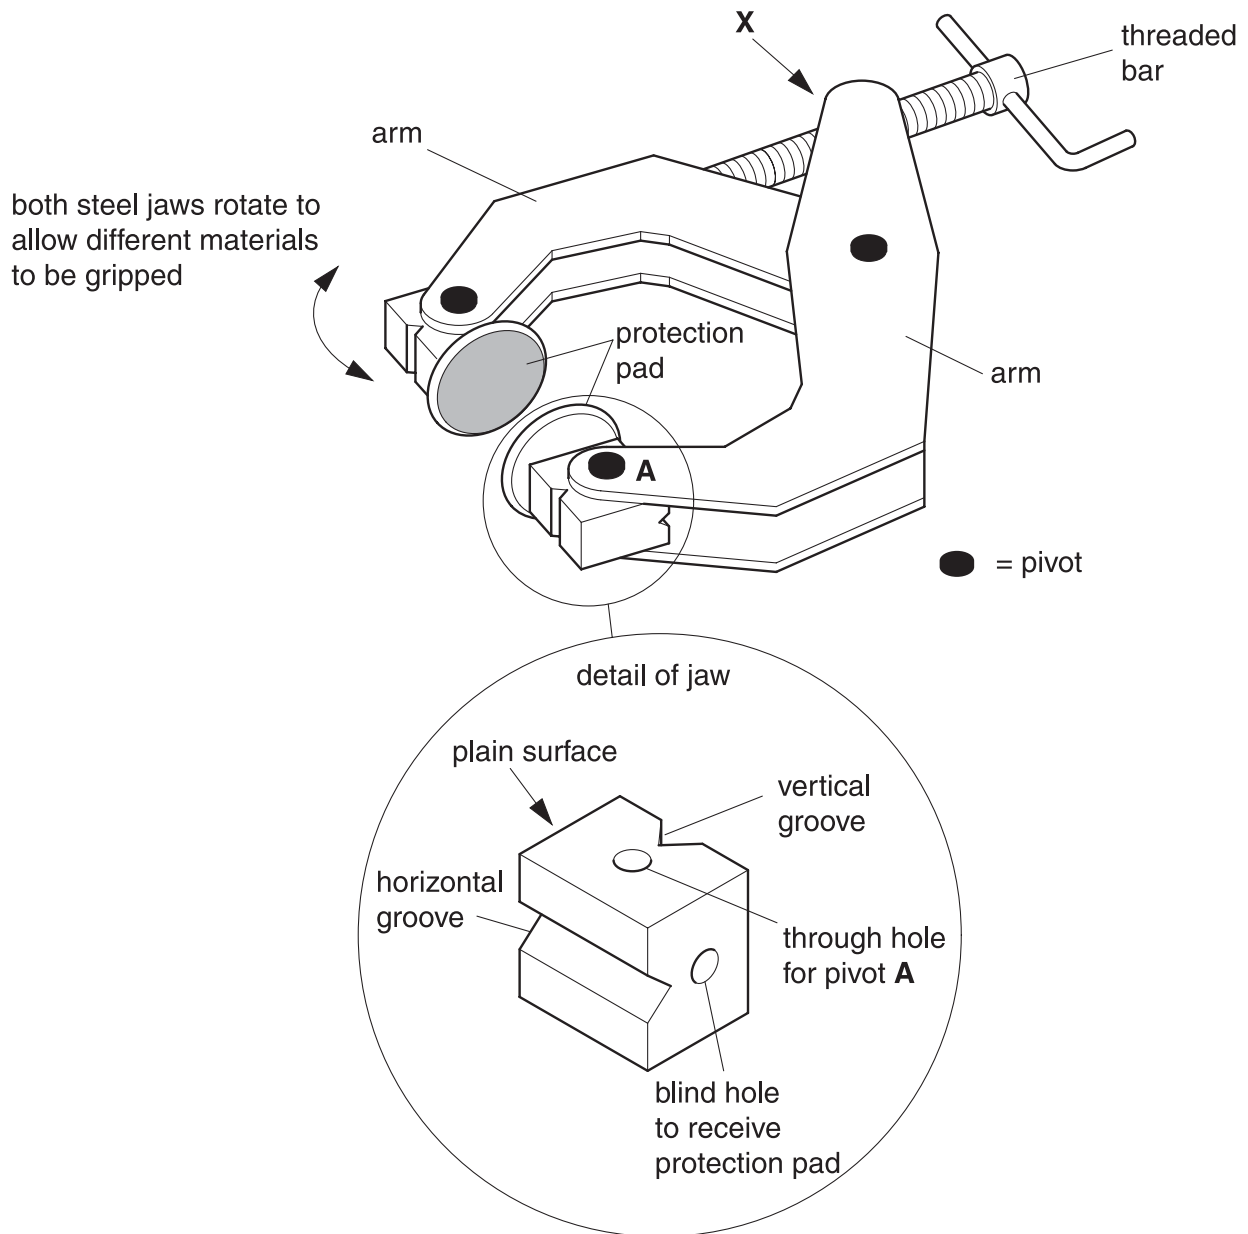

Fig. 9
- 9 Fig.9 shows a 'crab clamp' which is described by the manufacturers as 'A new concept in clamping'. The manufacturers state that 'It is designed to perform a variety of holding functions and outdates the G clamp'.